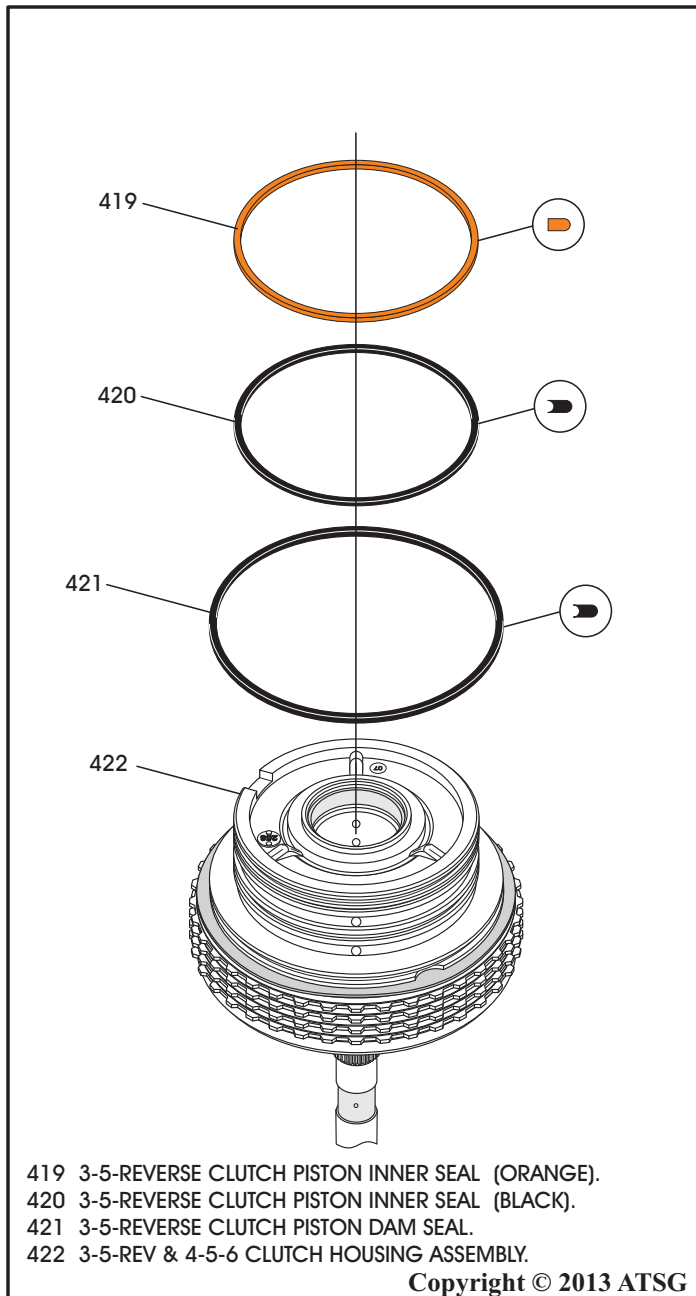

Figure 141
9. Remove and discard the orange 3-5 Rev clutch piston inner seal, as shown in Figure 141.
10. Remove and discard the black 3-5-Rev clutch piston inner seal, as shown in Figure 141.
11. Remove and discard the 3-5-Rev clutch piston dam seal (largest), as shown in Figure 141.